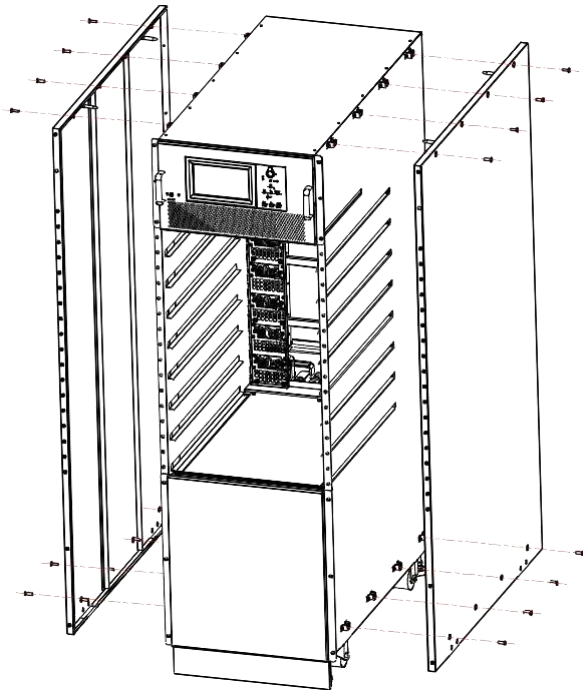

Figure 3-7 Remove the side door of the cabinet
2. Remove the side door of the cabinet, as Figure 3-7 shows;